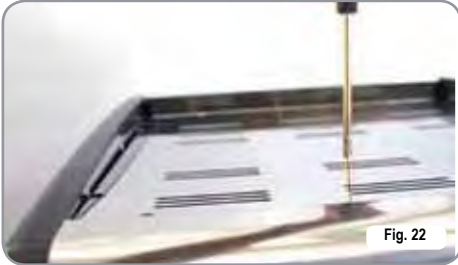

Fig. 22
- unscrew the central screw in the upper panel (Fig. 22);